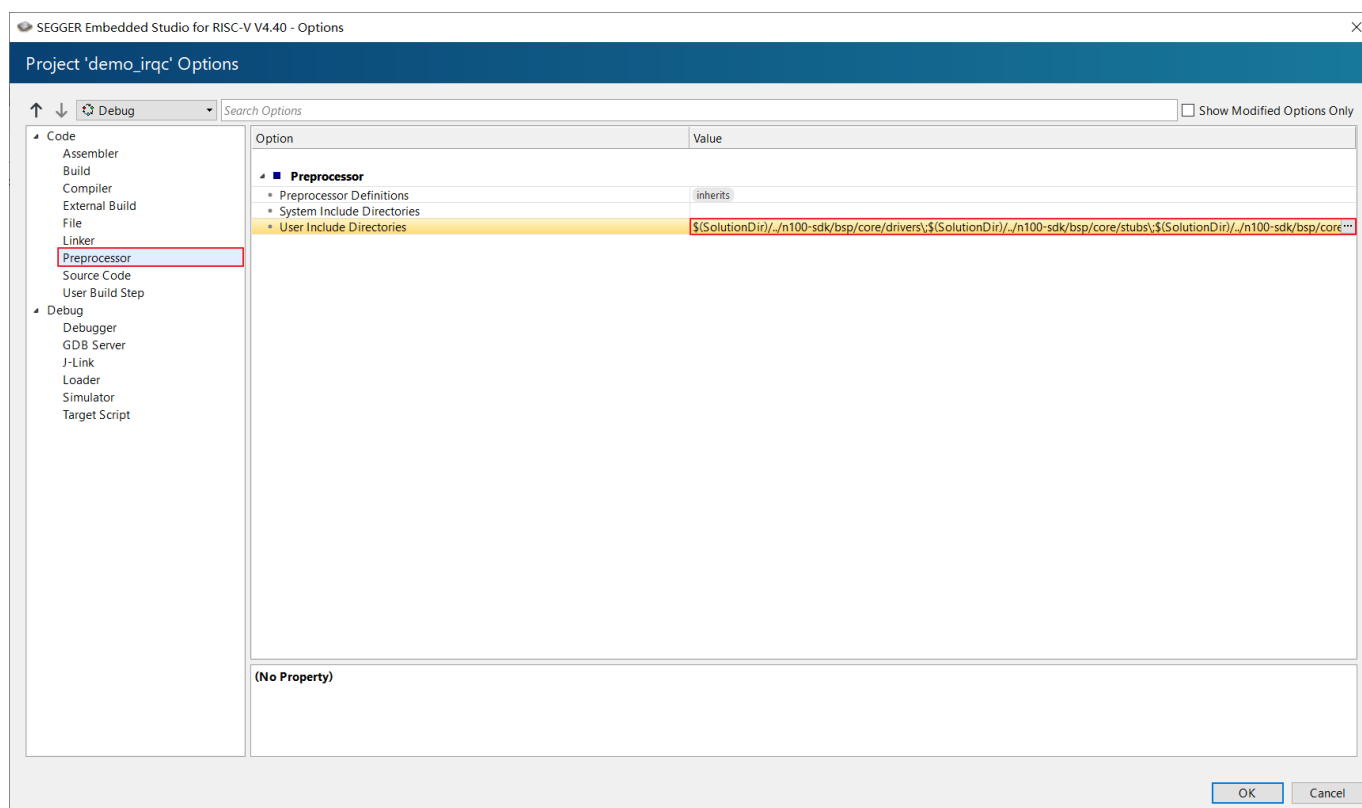

Figure 2-19 Project's Header File Path
- Select "Project --> Options" in the menu bar to open the project settings pop-up window, as shown in Figure 2-19. Under the “Preprocessor” option, enter the required header file path for the project, including nuclei_sdk header file path and application header file path.